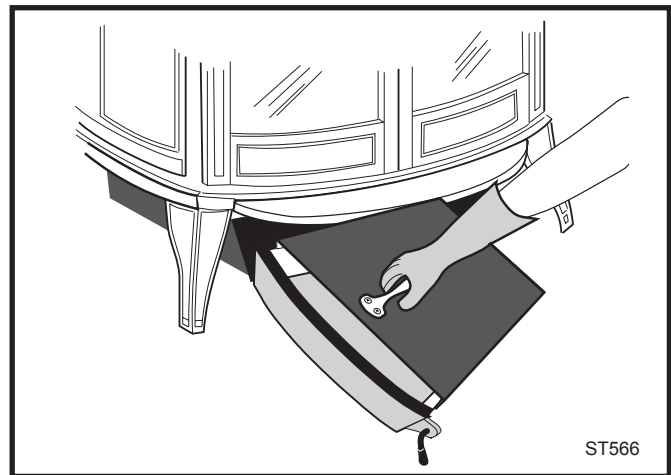

Fig. 37 Be sure the cover is securely attached before removing the ash pan.
- Slide the cover onto the pan, making sure it is securely closed. (Fig. 37)
- Return the ash pan to its original position in the stove, and close and latch the ash door. (Fig. 37)